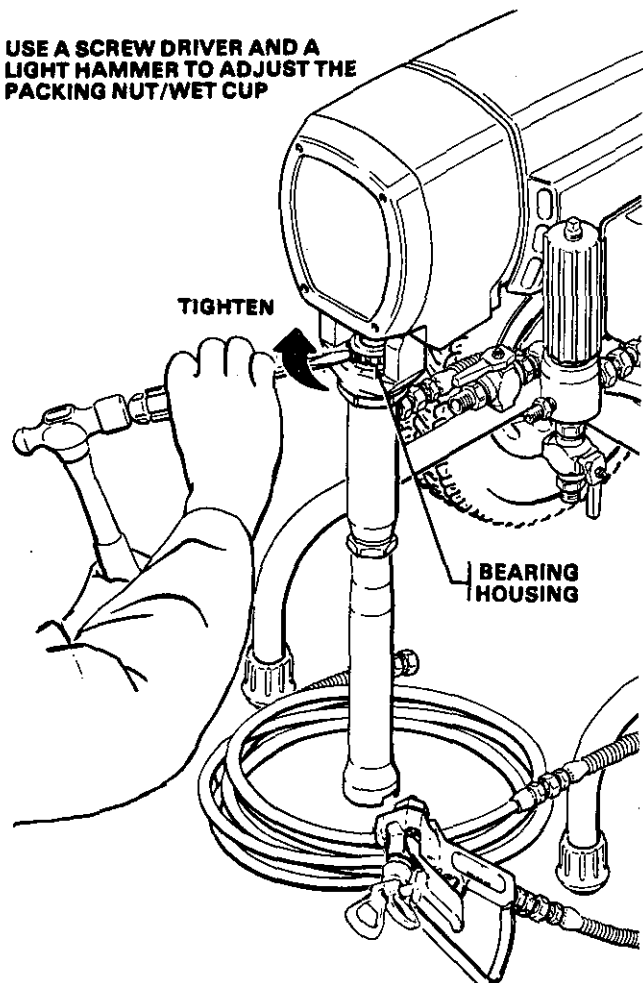

Fig 7
- Check the packing nut/wet-cup daily. First follow the Pressure Relief Procedure Warning on page 6. Be sure the wet-cup is 1/3 full of TSL at all times to help prevent fluid buildup on the piston rod and premature wear of packings. The packing nut should be tight enough to stop leakage, but no tighter. Overtightening may cause binding and excessive packing wear. Use a screwdriver and light hammer to adjust the nut. See Fig 7.